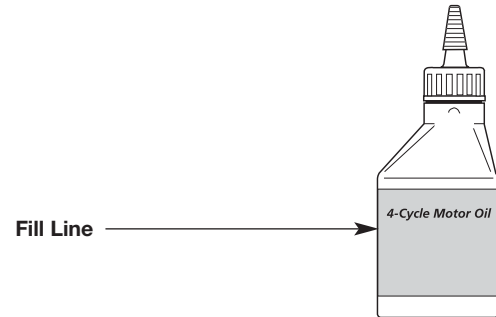

Fig. 23
**NOTE:** Use the empty oil bottle saved from the initial use to measure the correct amount of oil. Fill the oil bottle to the 2.03 fl. oz (60 ml) fill line indicated on the back of the bottle (Fig. 23).